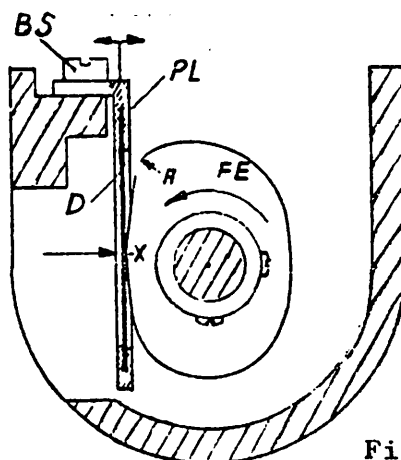

Fig. 38
- a) Turn the balance wheel in the forward direction until the edge marked "X" of the thread pick-up cam "FE" assumes the position shown in fig. 38a. Release the fixing screws "BS" and move the horizontally adjustable thread pick-up plate "PL" towards the cam "FE" until the wiper wire "D" forms a tangent of the edge "X" (fig. 38).